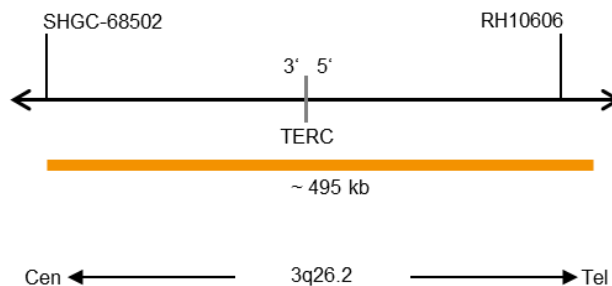

Fig. 1: SPEC TERC Probe map (not to scale)
- ZyOrange (excitation 547 nm/emission at 572 nm) labeled polynucleotides (4.5 ng/μl), which target sequences mapping in 3q26.2* (chr3:169,246,595-169,743,447) harboring the TERC gene (see Fig. 1).